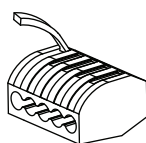
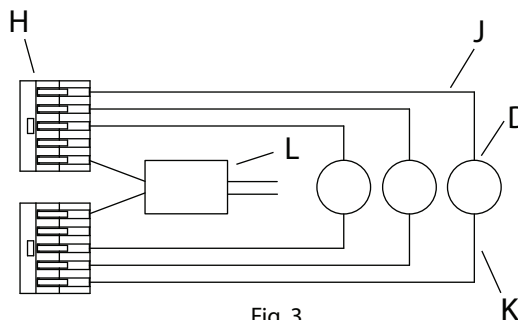

Fig. 2
Fig. 3
4. Connect the fixture wires to the lever nuts (H) by pulling up on the lever for an empty slot (Fig. 2), inserting the wire, and pushing the lever back down to lock. The white inner conductor (J) and black outer conductor (K) on each cord (D) must be connected to separate lever nuts, as shown (Fig. 3).
- a. Connect the transformer's (L) live wire (black) to the live outlet box wire.
- b. Connect the transformer's (L) neutral wire (white) to the neutral outlet box wire.
- d. Carefully place connections and transformer (L) in outlet box (A).
6. Reserve extra cords (D) and lever nuts (H) in canopy (G).
7. Attach mounting plate (M) to the outlet box (A), secure with outlet box screws (N).
8. Attach canopy (G) to mounting plate (M), secure with finials (P).